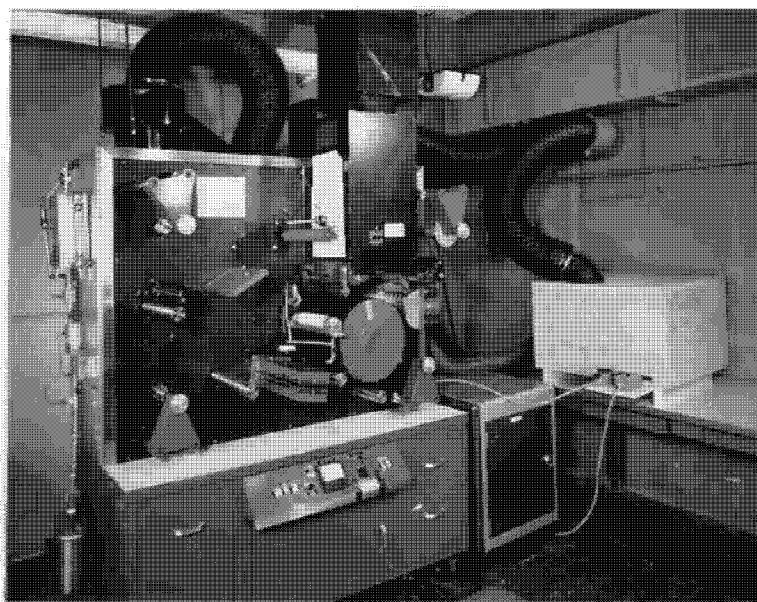

Figure 71
- Figure 71 - Framingham Continuous Color Printer